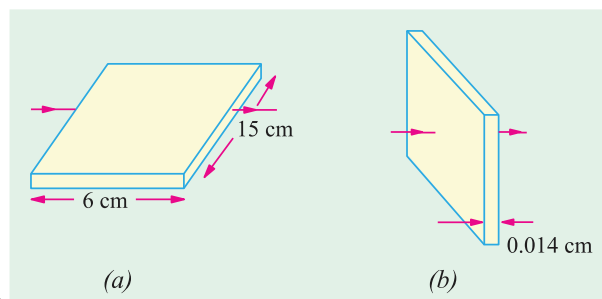

Fig. 1.5
**Solution.** (a) As seen from Fig. 1.5 (a) in this case,
(b) As seen from Fig. 1.5 (b) here